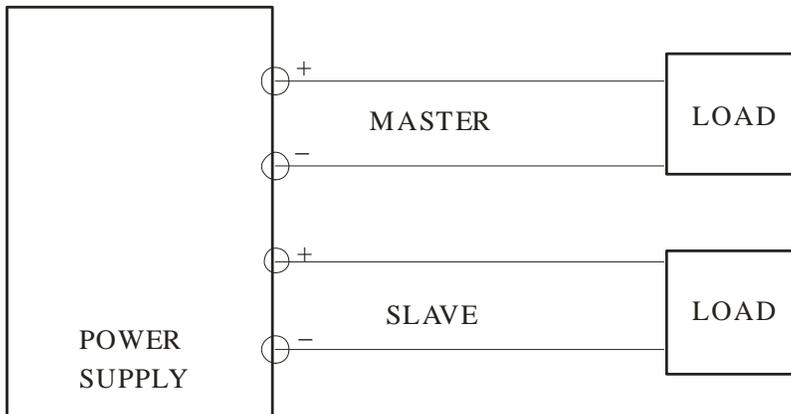

Fig.4-2 Independent Operation.
F. Fig.4-2 illustrates the connection procedure.